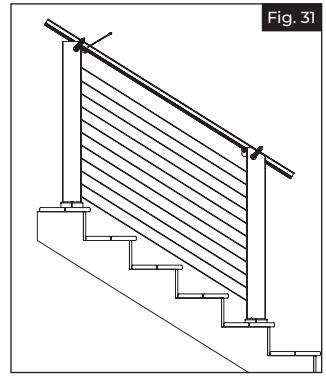

Fig. 31
- a. Clamp top beam on the side of the stair posts aligning it with the brackets. Mark the beam at the posts (Fig. 31). Cut the top beam on that mark and on that angle.